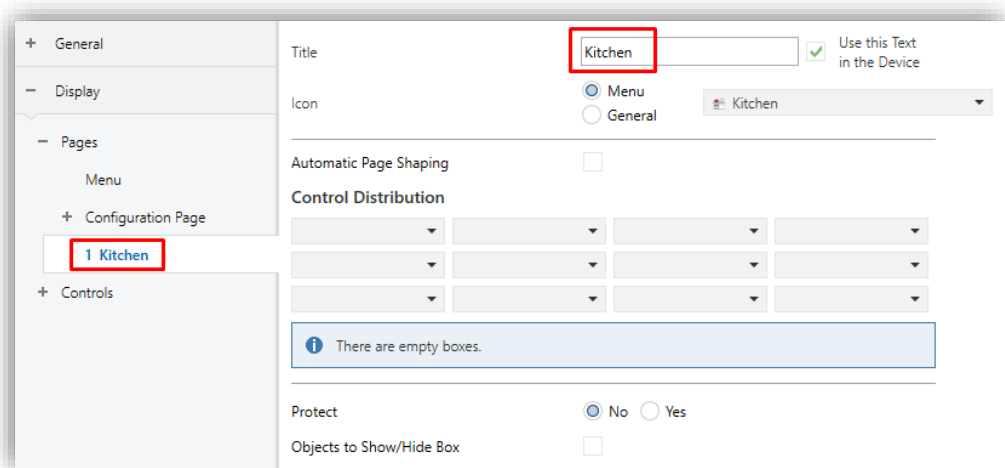

Figure 56. Configuration Page n
- **Title:** text field that identifies each of the enabled pages. In addition, this field allows changing the name of the tab in ETS left menu, as shown in the Figure 56.